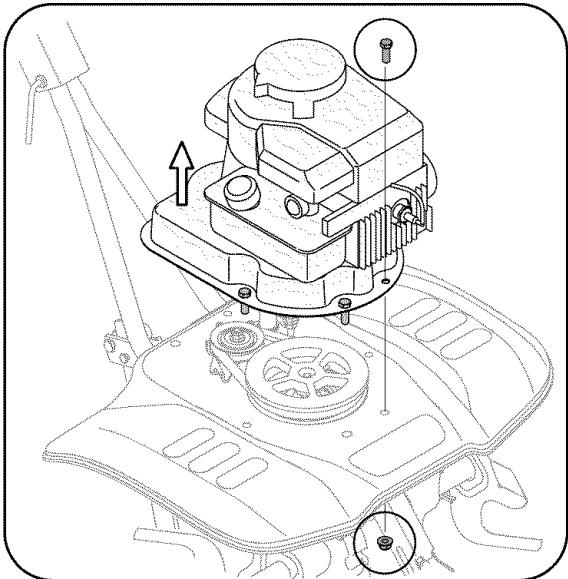

Figure 9 - Remove engine and frame to gain access to the belt.
- Remove the frame and engine by removing the six screws and lock nuts holding the engine and frame to the shield, Figure 9.